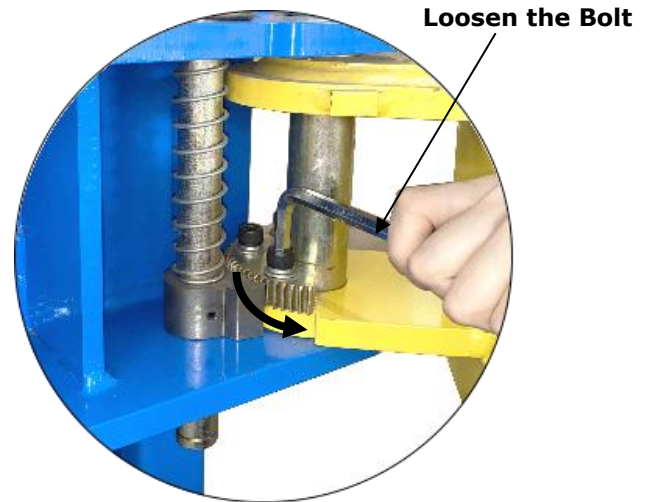

Fig. 32
2. Lowering the carriages to the lowest position, then use the 8# wrench to loosen the nut of gear (See Fig. 32).